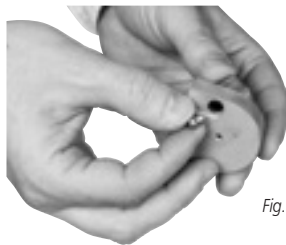

Fig. 6
- Spin the aluminum side counter-clockwise to release the cover from the catch point. Then insert the pellet in backwards (skirt first) into the first location. (Fig.6)